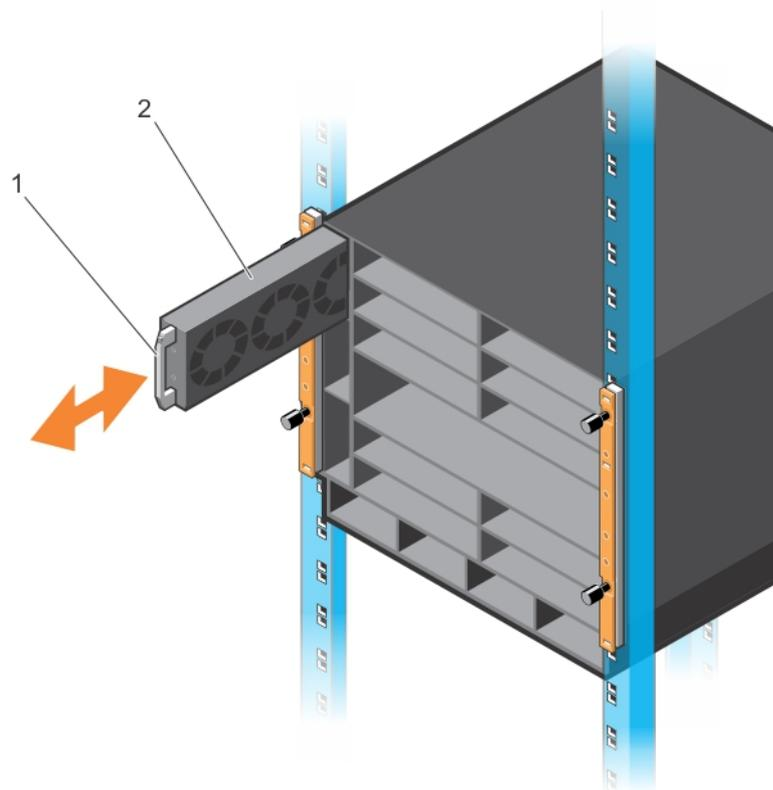

Figure 19. Installing a Fan Module
- 1 Slide the first fan module into fan slot 0 by pushing the handle (item 1 in Figure 19) forward into the uppermost fan slot (item 2 in Figure 19).